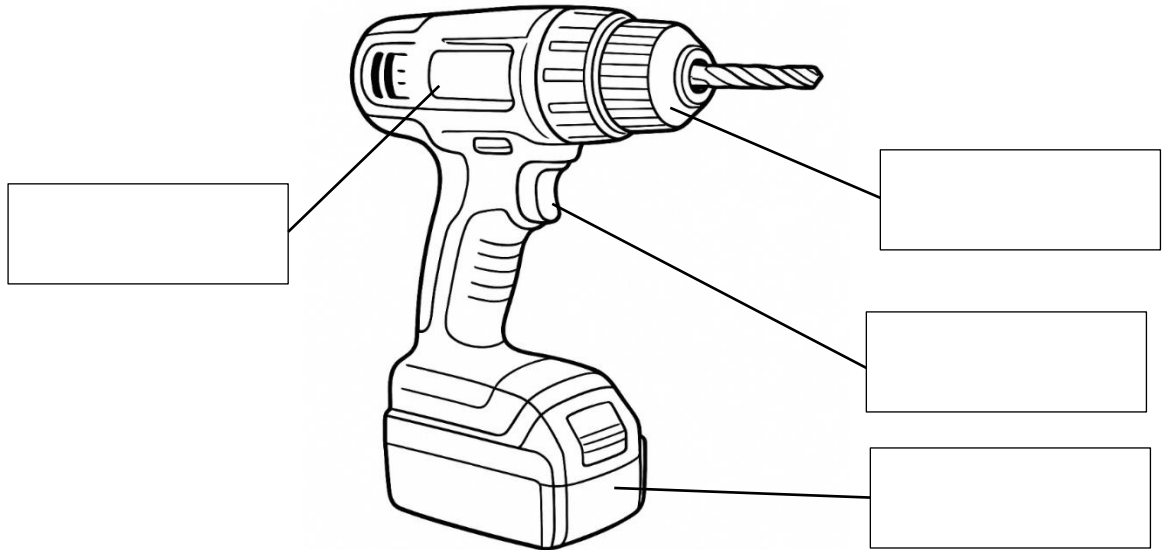

Figure 4
- b. Figure 4 shows a cordless drill. Use the terms in the word bank to label the operational and safety parts of this tool.